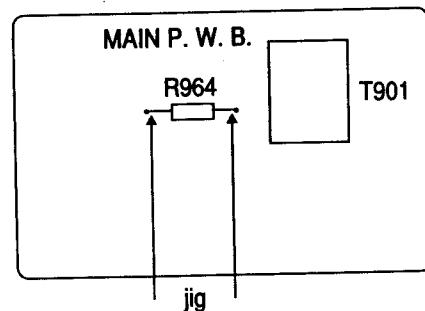

Fig. 1
5. Turn the switch of the set to off and connect the jig shown in Fig.3 at both ends of R964 as shown in Fig. 1.